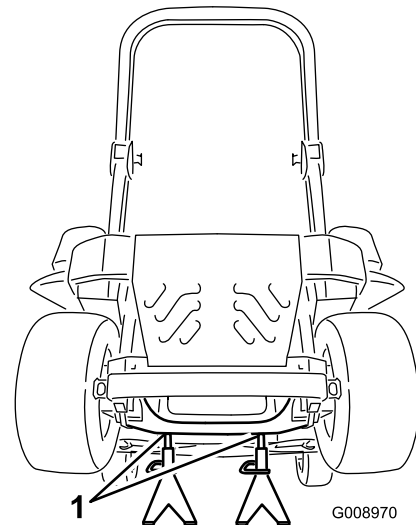

Figure 84
3. Raise the machine and support it with jack stands (Figure 84).
9. Remove the jack stands and lower the machine (Figure 84).